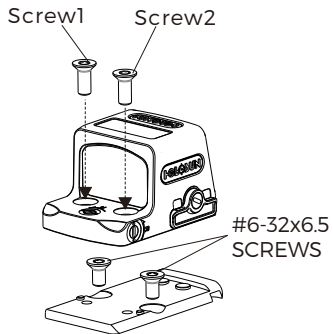

Fig 7-1
1. EPS: To use the included RMR adapter plate, first use two included #6-32x6.5 screws to attach the adapter plate to the slide and then use the provided screws to attach the sight to the adapter plate. (See Fig 7-1)